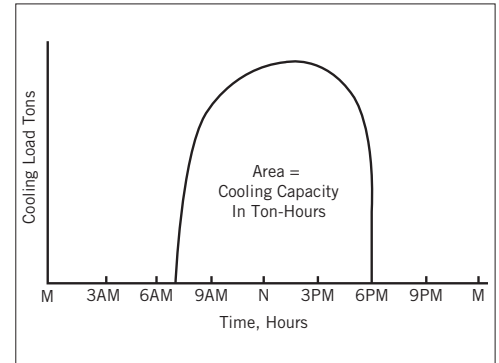

Figure 13
- ▶ **System Load** – The system load is the amount of cooling capacity that must be generated and stored, expressed in ton-hours or Btu. (1 ton-hour = 12,000 Btu = 83.3 pounds of ice). This load is equal to the area under the typical system load profile curve (**Figure 13**).
1. From the system load profile (**Figure 13**) establish the required system cooling capacity in ton-hours. This is the ton-hours of storage required.
2. Determine the build time, which is the number of hours with no load that is available for ice building. If less than ten (10) hours, consult your BAC Representative.
1. From the system load profile (**Figure 13**), establish the required system cooling capacity in ton-hours and the number of hours this cooling is needed.